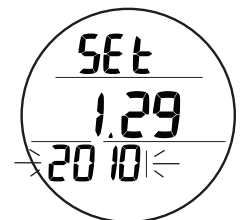

Fig. 31 - SET DATE
**Set Date**, information includes (Fig. 31):